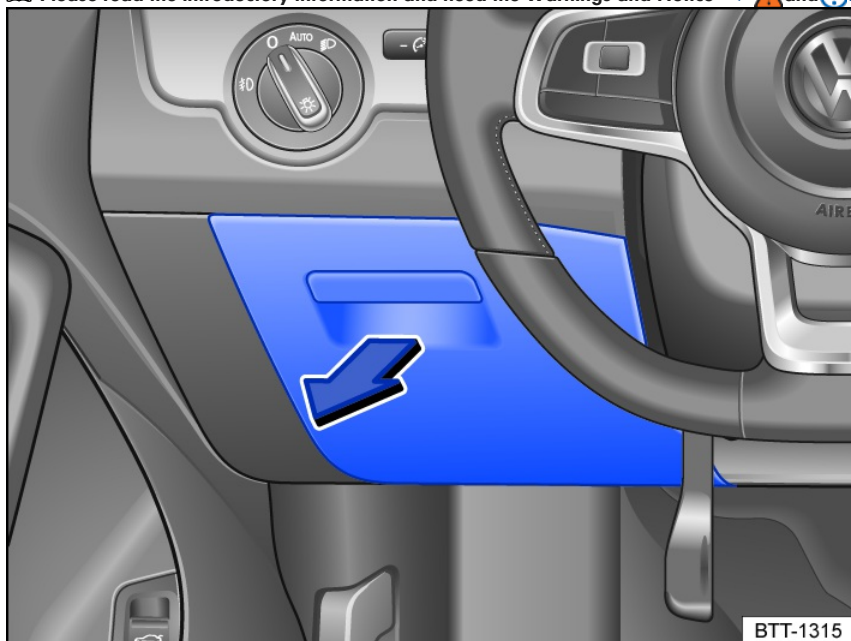

Fig. 130 On the driver side in the instrument panel: fuse box cover.
1. Open the storage compartment on the driver's side in the direction of the arrow fig. 130.
2. Close the storage compartment on the driver's side in the opposite direction to the arrow fig. 130.